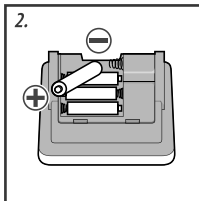

Fig.3
2. Install four "AA" type batteries into the compartment. Make sure that the polarities correspond to the (+) and (-) marks inside the battery compartment (fig.3). Batteries can be easily installed or removed as their (-) ends are pushed against the spring.